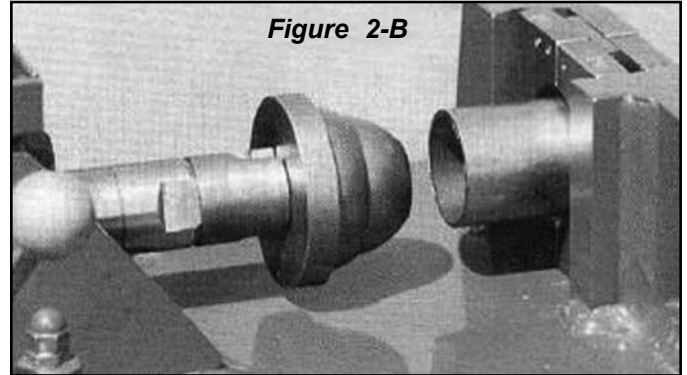

Figure 2-B
4. Leave at least three inches of tubing extended beyond the inside edge of the adapter collar. (See figure 2-B)